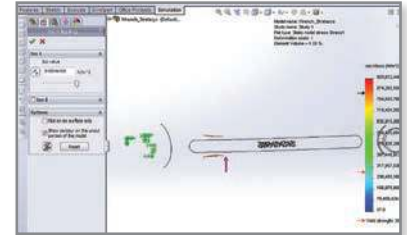

Figure 5: Iso clipping displays only the regions where values exceed the selection.
STEP 3: Move the scroll bar for the Iso 1 value so that it includes all of the desired first-color results. With  inactive, the display shows only the results above the selected value (Figure 5).